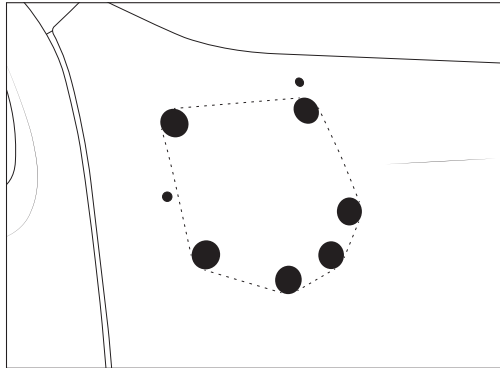

Figure 3
- Use a flexible straight edge and felt marker or painter's tape to mark the main hole from tangent to tangent (fig. 3).